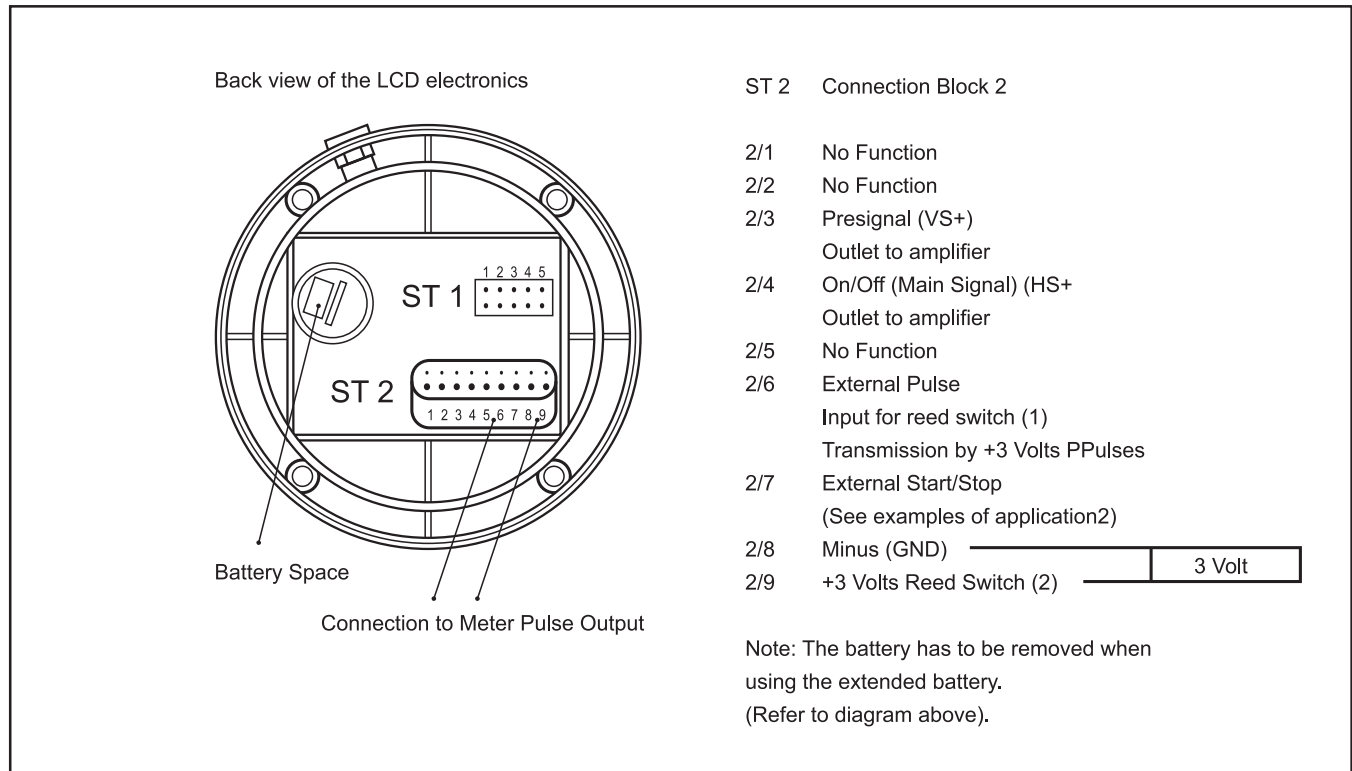

Figure 3-18 Connections Diagram
- 3. Electronic display mounted onto quick action tap; amplifier with 1 output signal for installation into a switchboard controlling 1 valve. Liquid meter without display unit. (Refer to Figure 3-18)